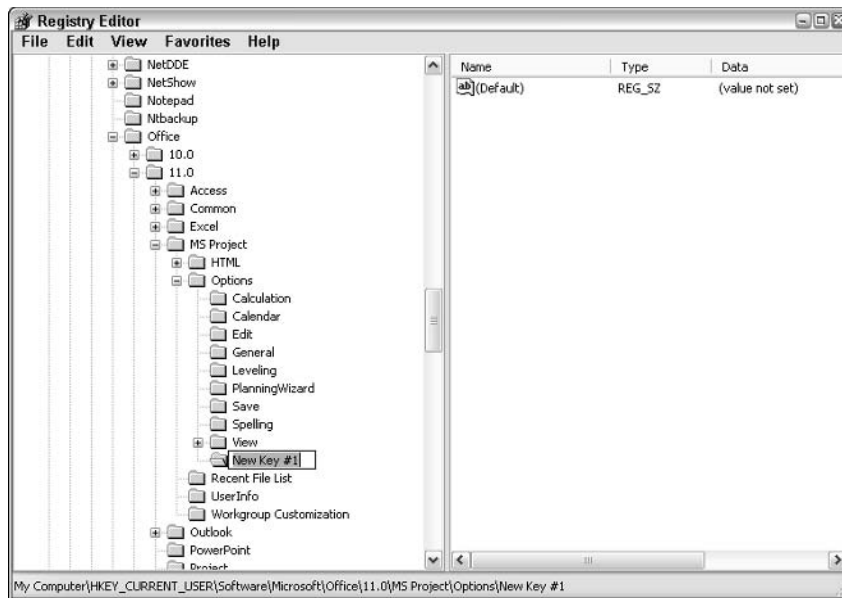

Figure 16-3: Add a key.
5. If you don't see a folder called `Workgroup`, you need to add it. Choose `Edit`→`New`→`Key`. You see a new folder in the left pane of the Registry Editor window (see Figure 16-3).